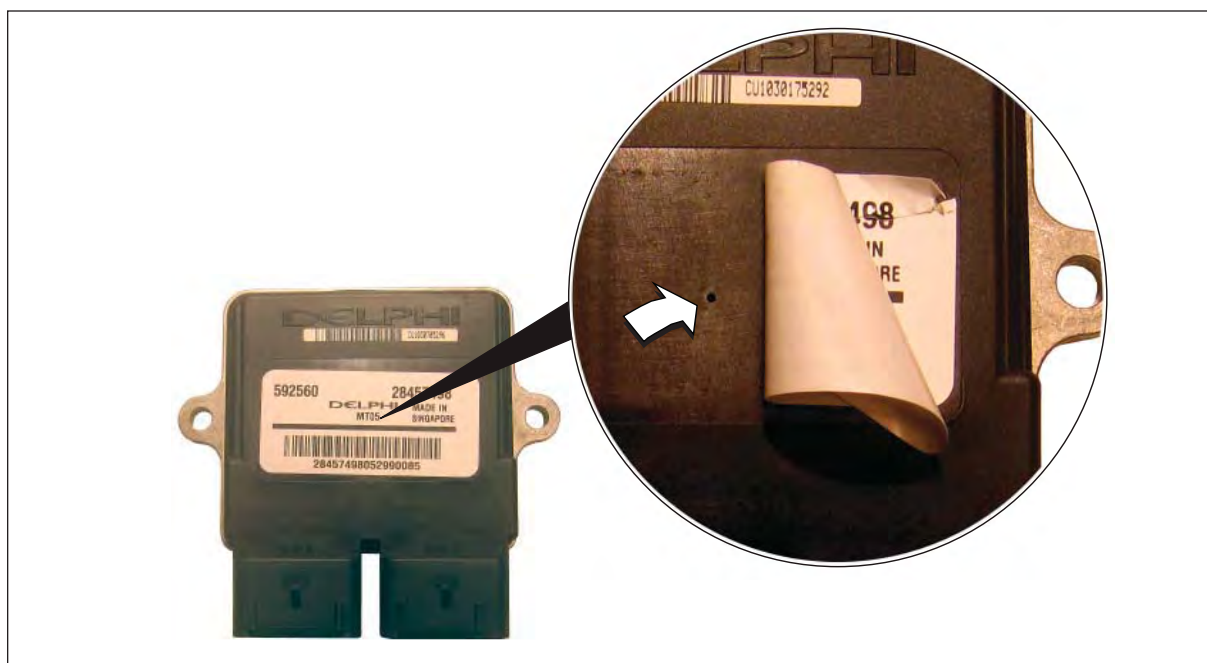

Figure 1-3 Protect ECM From Water Intrusion.
**NOTE:** See Figure 1-3. A pin hole centered under the adhesive label is used in manufacturing to determine the integrity of the potted seal. If the label peels or becomes torn, worn or abraded, exposure of the hole can allow water or moisture to intrude, leading to corrosion and eventual ECM failure.